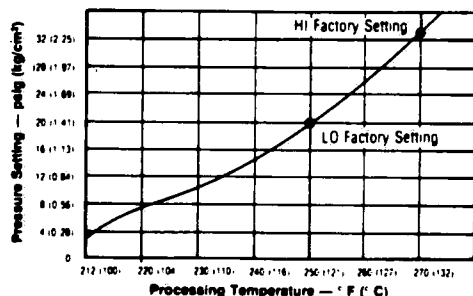

Figure 7-12. PRESSURE REGULATOR SETTINGS.
5. Using the following chart (Fig. 7-12), adjust the HI-LO valve until jacket pressure as indicated on the jacket pressure gauge corresponds with the desired processing temperature.